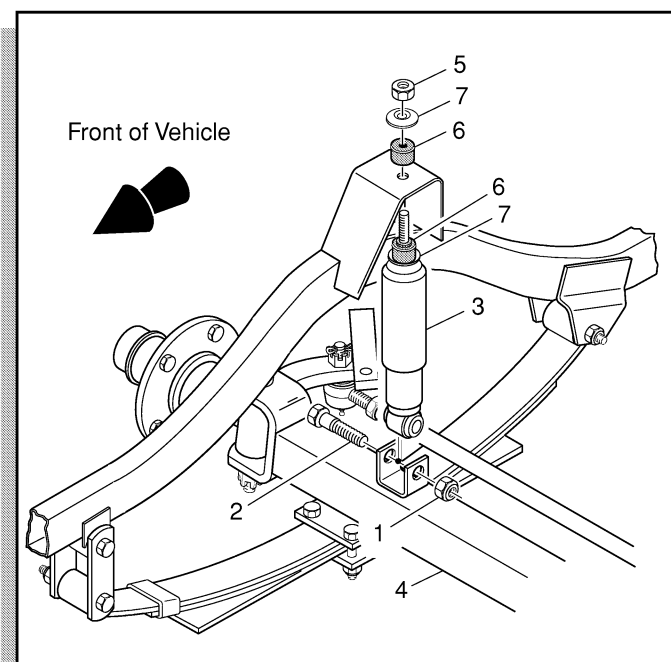

Fig. 1 Shock Absorber Replacement
Lift and remove the two front seats to gain access to the shock absorbers. Remove the nut (1) and bolt (2) securing the bottom of the shock absorber (3) to the front axle (4) (Ref Fig. 1 on page E-1). Compress shock absorber to permit bottom to clear the mounting bracket.
Installation of shock absorber is the reverse of disassembly. Tighten the bottom bolt and nut firmly. The top mounting nut should be tightened until the rubber bushings (6) expand to the diameter of the shock absorber washers (7) (Ref Fig. 1 on page E-1).